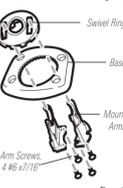

Figure 6
1. Insert swivel ring in base, then insert the mount arms through the base (Figure 6).
2. Secure the mount arms with the 4 #6 screws provided (Figure 6). **Hand tighten only!**